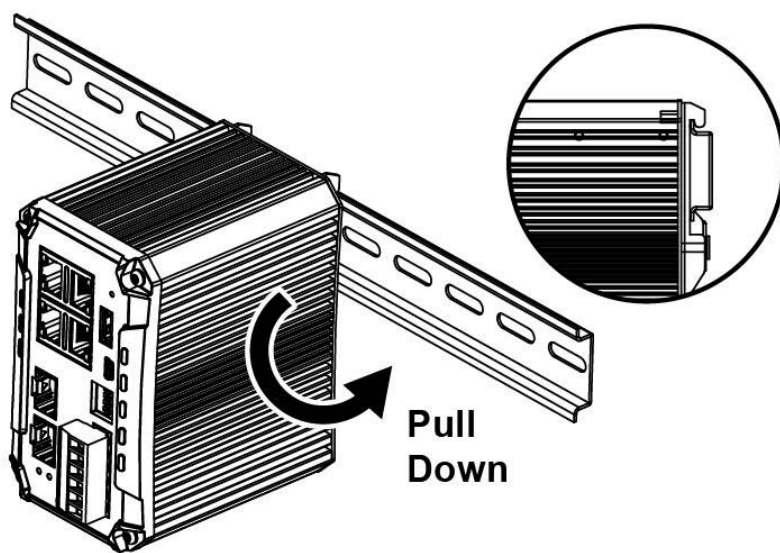

Figure 3.3: Stable the Switch on DIN-Rail
Step 4. Lightly pull down the bracket on to the rail as shown below in Figure 3.3.